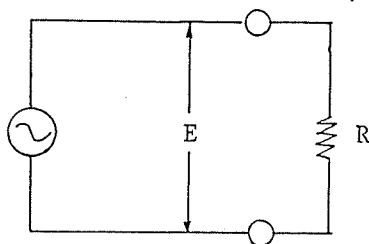

Fig.5-1
In Fig.5-1, power P(W) due to voltage E(V) applied across impedance R(Ω) is given by